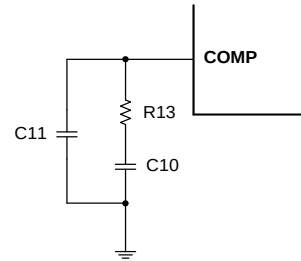

Figure 13: COMP External Compensation
The COMP external compensation sets one pole f_{p1} and one zero f_{z1} (see Figure 13). These are determined by Equation (24) and Equation (25):